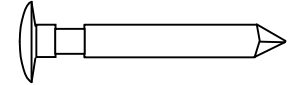

FIGURE 23
3. **Axle Grooving** - Before polishing the axles, a groove can be cut into the axle with a file (see Figure 23). The intent of the groove is to reduce the surface area contact between the axle and wheel bore (thus reducing friction) and to provide a reservoir for graphite.